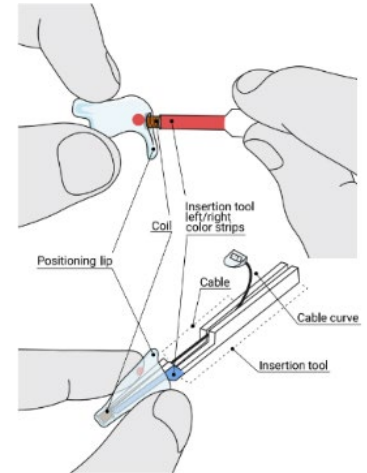

Figure 42: Cable and insertion tool positioning
- b. Hold the Ear Tip shell with the color dot facing vertically up. Hold insertion tool so that the matching red/blue color strip is aligned with the color dot on the Ear Tip shell (Figure 42).